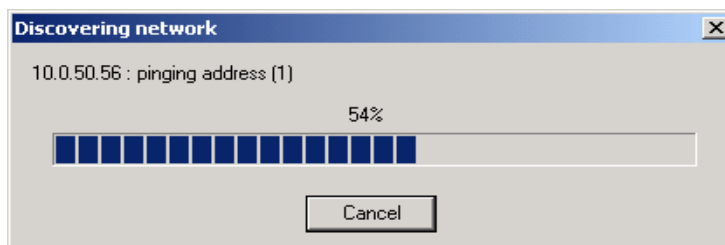

Figure 5.2 Searching progress
2. Click on “OK” and the following dialog box shall display the searching progress (Figure 5.2).